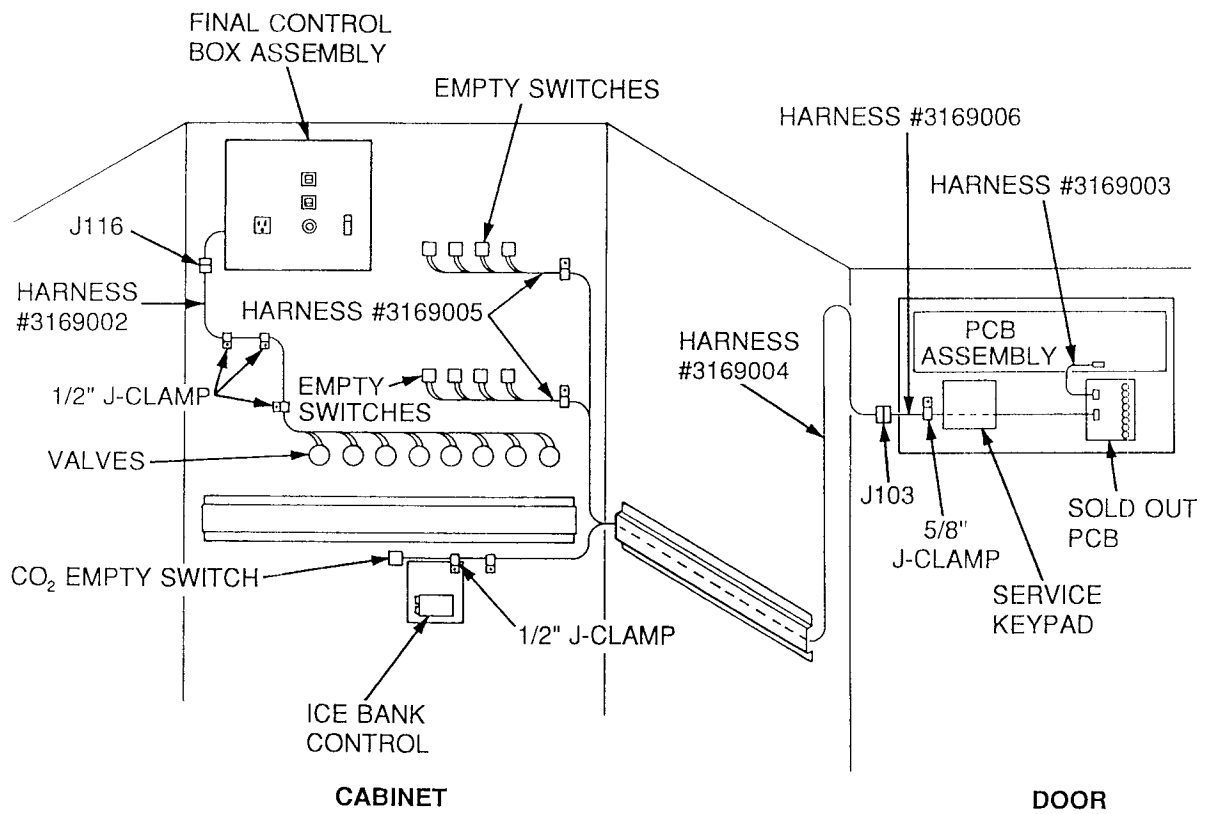
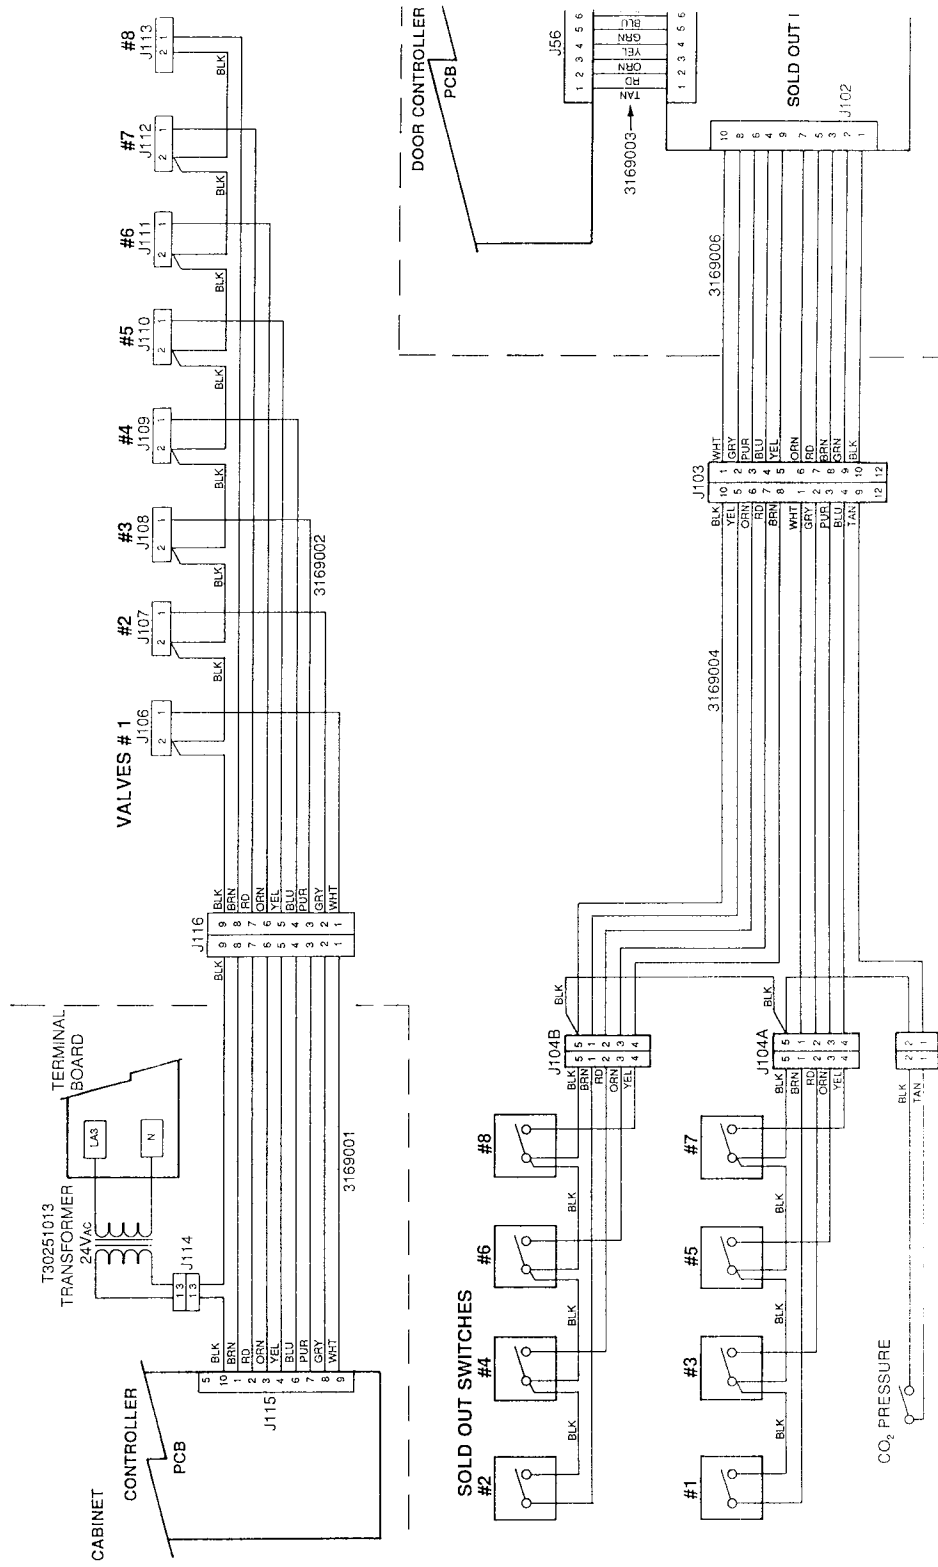

Figure 17. Harness Routing
Figure 18. Retrofit Wiring Schematic
53. See figure 17: Route the harness from the door controller along the right side wall of the cabinet to the back plate pump assembly as shown. Secure the harness to the cabinet. Connect the harness to the pump assembly and CO₂ sold out switch as shown. See figure 18 for a schematic diagram of all new harnesses.